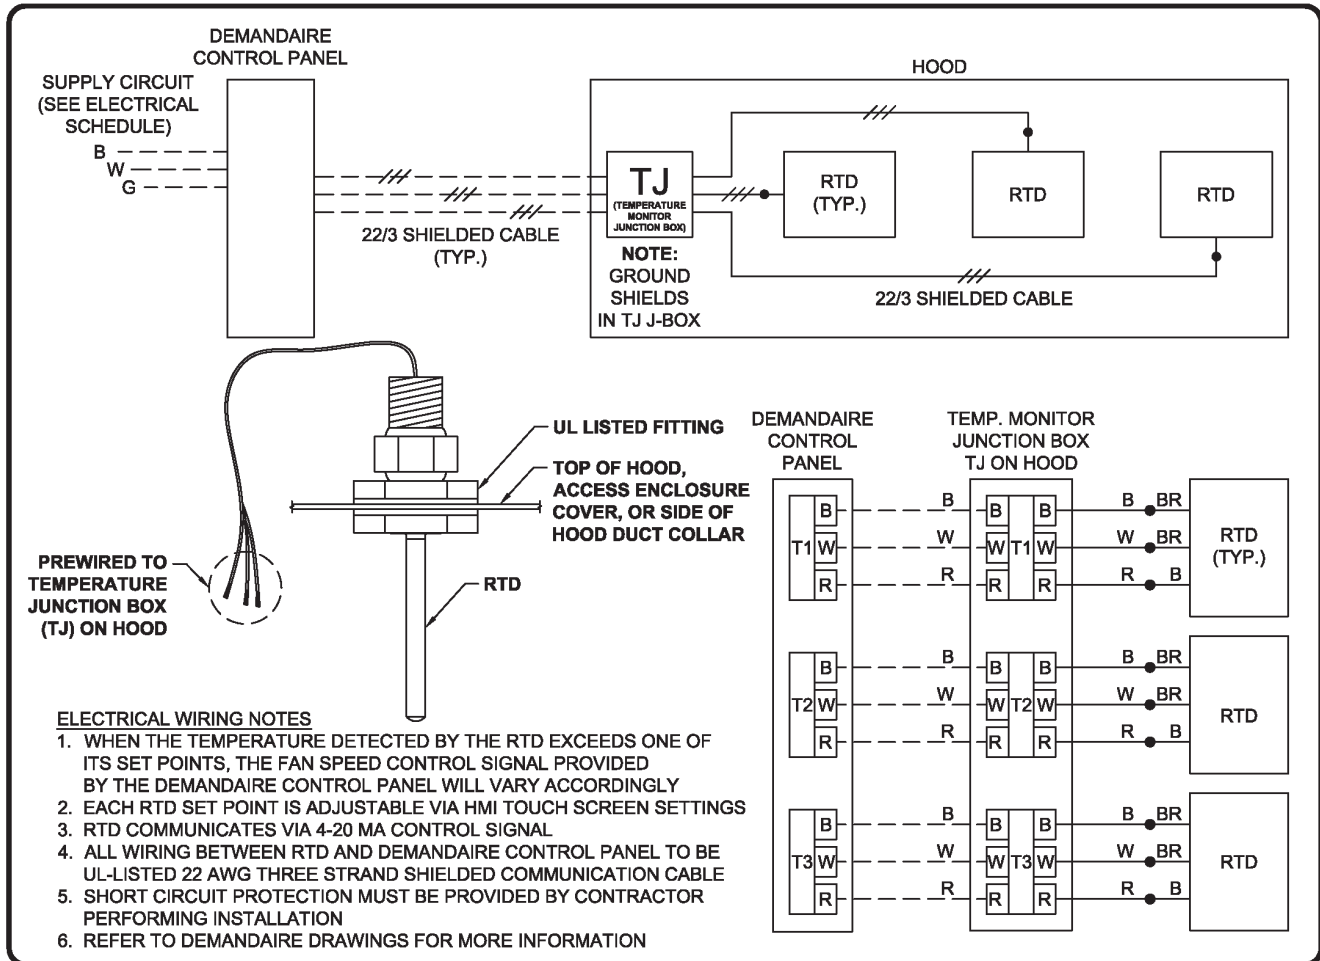

Figure 11A: Hood Canopy and/or Duct Collar Resistance Temperature Detector (RTD) Wiring
- Connect the terminal blocks labeled *T1*, *T2*, *T3*, etc., in the control panel to the corresponding terminal blocks in the J-Box on the hood using the UL-Listed 22 AWG Three-Strand Shielded Communication Cable (*Figure 11A, 11B*).